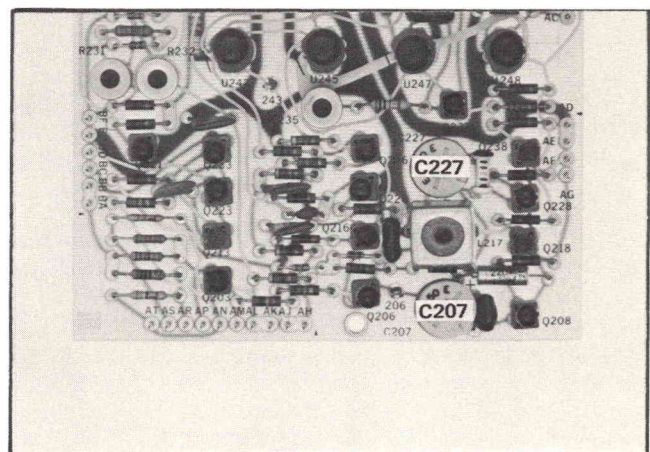

Fig. 5-30. Bar Timing board adjustment locations.
g. ADJUST—C207 (see Fig. 5-30) until the falltime of the (Split Field) blue bar is coincident with the -I, W, Q, B black bar.